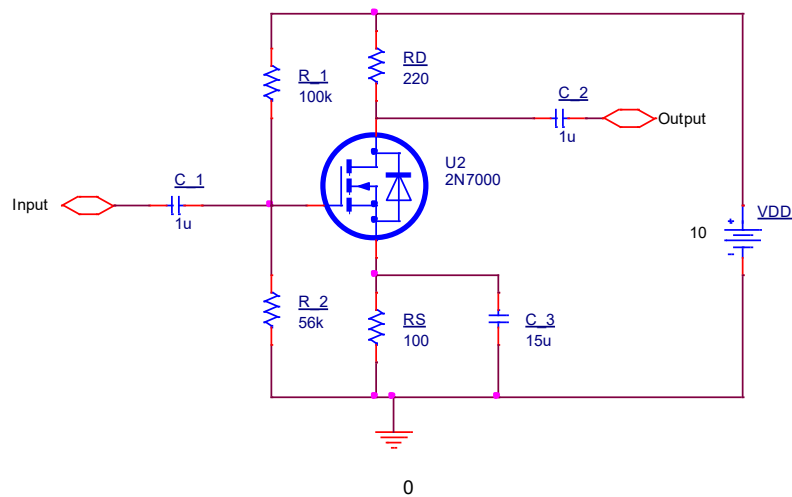

Figure 3: Common source MOSFET amplifier circuit
1. Implement the circuit shown in Figure 3. In this circuit, voltage-divider biasing configuration is used for implementation of CS MOSFET amplifier. For now, connecting capacitors is not required as AC input is not applied.
For AC analysis, MOSFET in figure 3 is replaced by small signal model of MOSFET. R_G is the equivalent resistance of $(R1 || R2)$ used for biasing. R_L will be included in circuit only when amplifier is loaded.